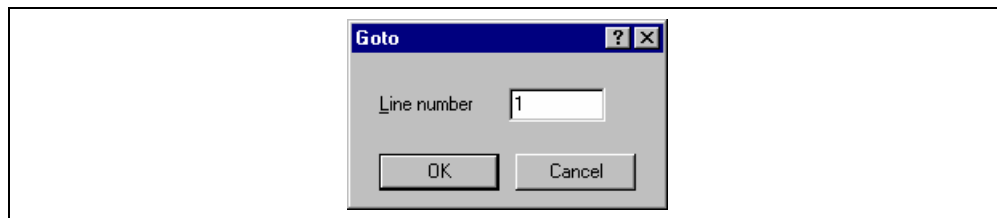

Figure 4.5: Goto Dialog
2. Select [**Edit->Goto Line...**], press **CTRL+G**, or select [**Goto Line...**] from the editor window's local menu. A goto line dialog box will be displayed (figure 4.5).